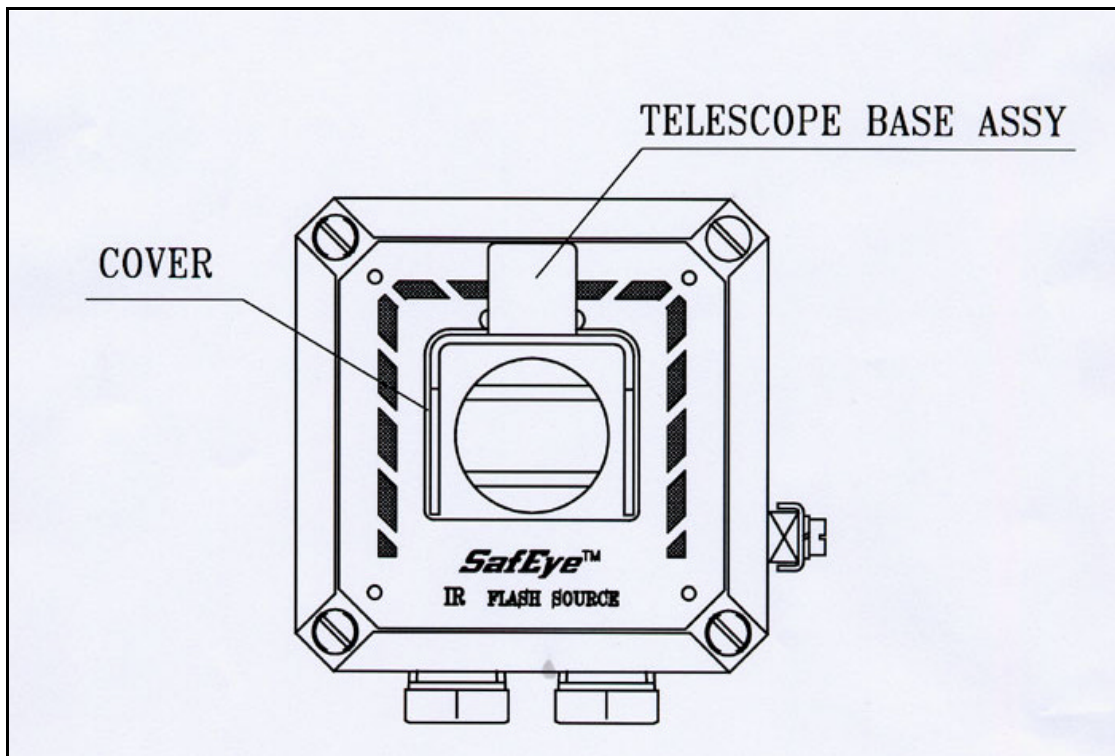

Figure 1: Flash Source – Reflector Type
1. Reflector type, model OPS-FI0x (Figure 1)